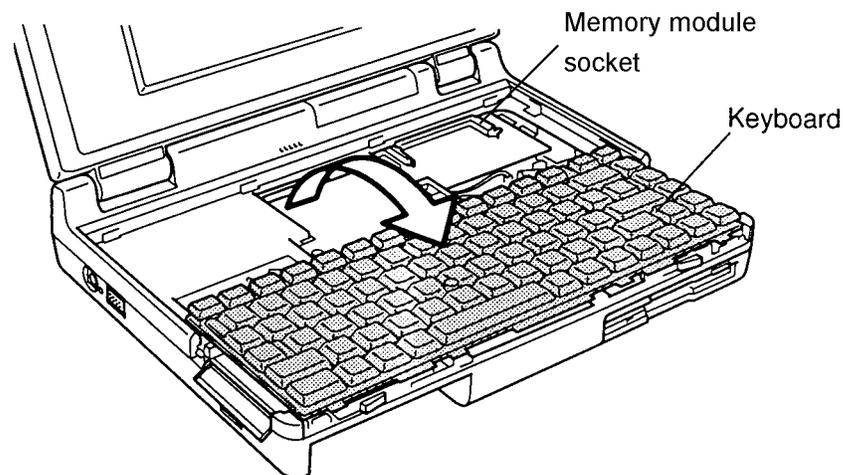

Figure 4-7 Exposing the Memory Module socket
6. Put your finger under the space bar on the keyboard, lift up slightly so the extensions at the back of the keyboard clear corresponding holes on the computer. Rotate the keyboard forward so that it lies face down over the AccuPoint buttons. Do not remove the keyboard cable (figure 4-7).